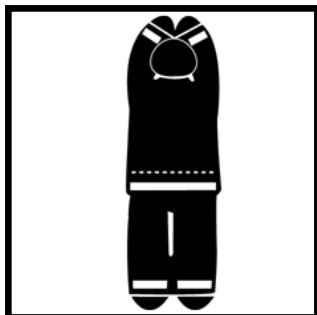

FIG.9A
- A. NFPA 1500 Standard Position A (**Fig. 9A**). While standing, reach over head as high as possible with your hands together. The inner liner of the coat must overlap the top of the trousers by no less than 2 inches (5 cm).